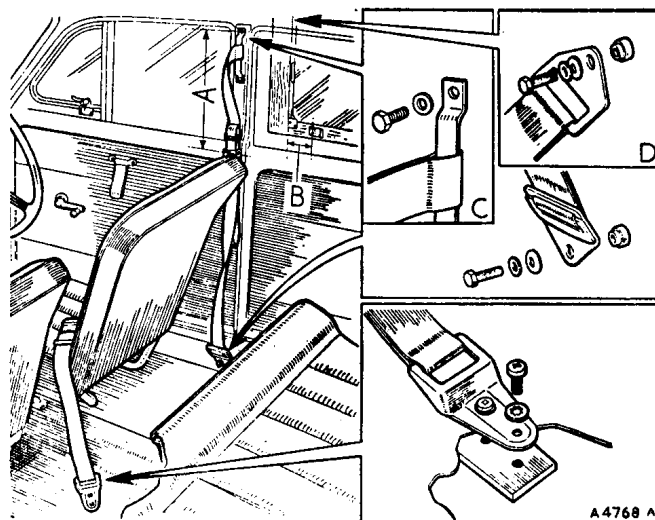

Fig. R.55
- (1) Locate the two centre pillar fixing holes by feeling the surface of the trim and cut the trim in the form of a cross immediately over the two holes.
- (2) Fold the edges of the trim under the trim panel.
- (3) Attach the bar-type bracket of the long belt to the pillar, using the screws and washers provided (see [c], Fig. R.55).
- (1) Position the belt clip on the centre pillar 15 in. (381 mm.) below the upper fixing point of the bar-type bracket of the long belt (see (A), Fig. R.55). The open end of the clip is to face forward.
- (2) Use a No. 31 drill ($\cdot 120$ in. diameter) to drill the two fixing holes in the pillar.
- (3) Secure the clip to the pillar with the two fixing screws provided.
- (4) Position the warning label on the rear of the front seat squab as near to the top of the squab as possible.
- (5) Use a No. 38 drill ($\cdot 101$ in. diameter) to drill the two fixing holes.
- (6) Secure the label to the squab with the two No. 6 screws provided.
- (2) Place the shouldered distance piece into the under side of the top end bracket of the long belt so that the large diameter of the distance piece will abut the pillar.
- (3) Secure the bracket to the pillar weld-nut with the screw, plain washer, and waved washer (see [D], Fig. R.55); ensure that the wave of the washer faces the bracket.
- (1) Position the belt clip on the centre pillar 15 in. (381 mm.) below the upper fixing point of the long belt (see (A), Fig. R.55). The open end of the clip is to face rearward.
- (2) Use a No. 31 (.120 in. diameter) drill to drill two holes in the pillar and secure the clip to the pillar with the two No. 8 screws provided.
- (3) Secure the warning plate to the rear of the front seat squab as detailed in Section R.38.